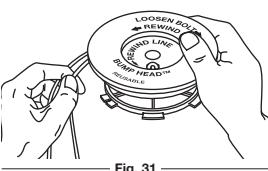

Fig. 31
- Wind the lines in tight even layers, onto the reel (Fig. 31). Wind the line in the direction indicated on the inner reel. Place your index finger between the two lines to stop the lines from overlapping. Do not overlap the ends of the line. Proceed to step 11.